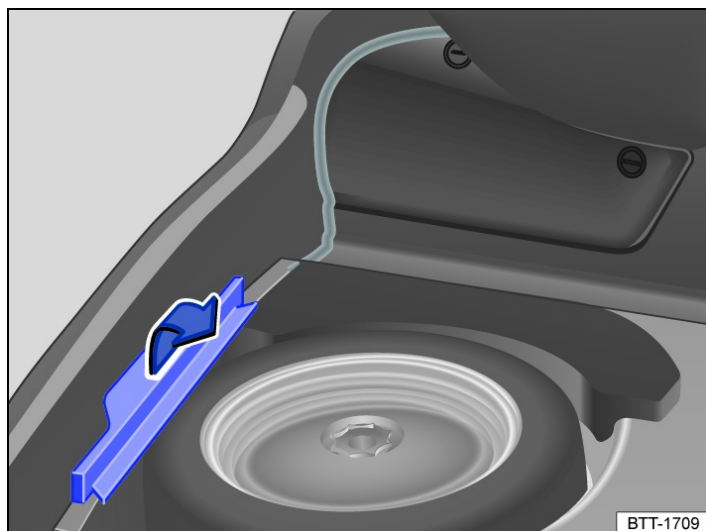

Fig. 1 In the luggage compartment: cover over the spare wheel.
- To remove the cover → Fig. 1, first pull it up and then slide it forwards.